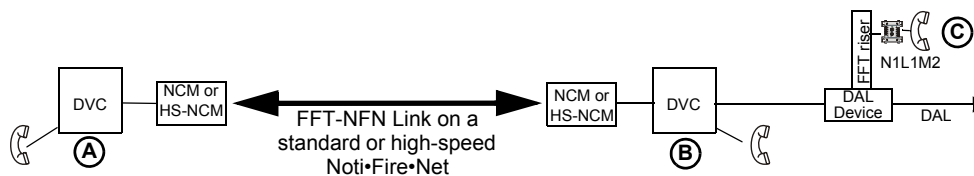

Figure B.2 FFT-NFN Communication Links Example 1
Refer to Figures B.2 and B.3 for this example.
1. A firefighter jacks in at (C). Point 1 rings at (A). Both LEDs flash.
2. The operator at (A) presses the point button, programmed as shown in Figure B.2, turning on the point. The point active LEDs will light steady on, and the yellow LEDs will go off. Communication is established between (C) and the local telephone at (A).
- The *N3,N7* portion of the point programming controls the network communication - (A) to (B) in this example.
1. A firefighter jacks in at (C). Point 1 rings at (A). Both LEDs flash (green and yellow at the DVC-KD, point active and yellow at the annunciator).
2. The operator presses Point 1, turning on the point. The point active LEDs will light steady on, and the yellow LEDs will turn off. Communication is established between (C) and the local telephone at (A). If pressing Point 1 activates (C) but does not open the FFT-NFN link, the (A) and (C) point LEDs will continue to flash because the FFT-NFN link is not available.
3. Firefighters jack in at (D) and (E). Points 2 and 3 ring at (A), the point active LEDs light steady and the yellow LEDs flash. The operator at (A) presses the Point 2 and 3 buttons (either the Point 2 and 3 DVC-KD buttons or the Point 2 and 3 ACS annunciator buttons), programmed as shown in Figure B.2, turning on the points. The yellow LEDs will turn off. Communication is established between the field telephones at (C), (D) and (E) and the local telephone at (A). (A) through (E) are now in communication.